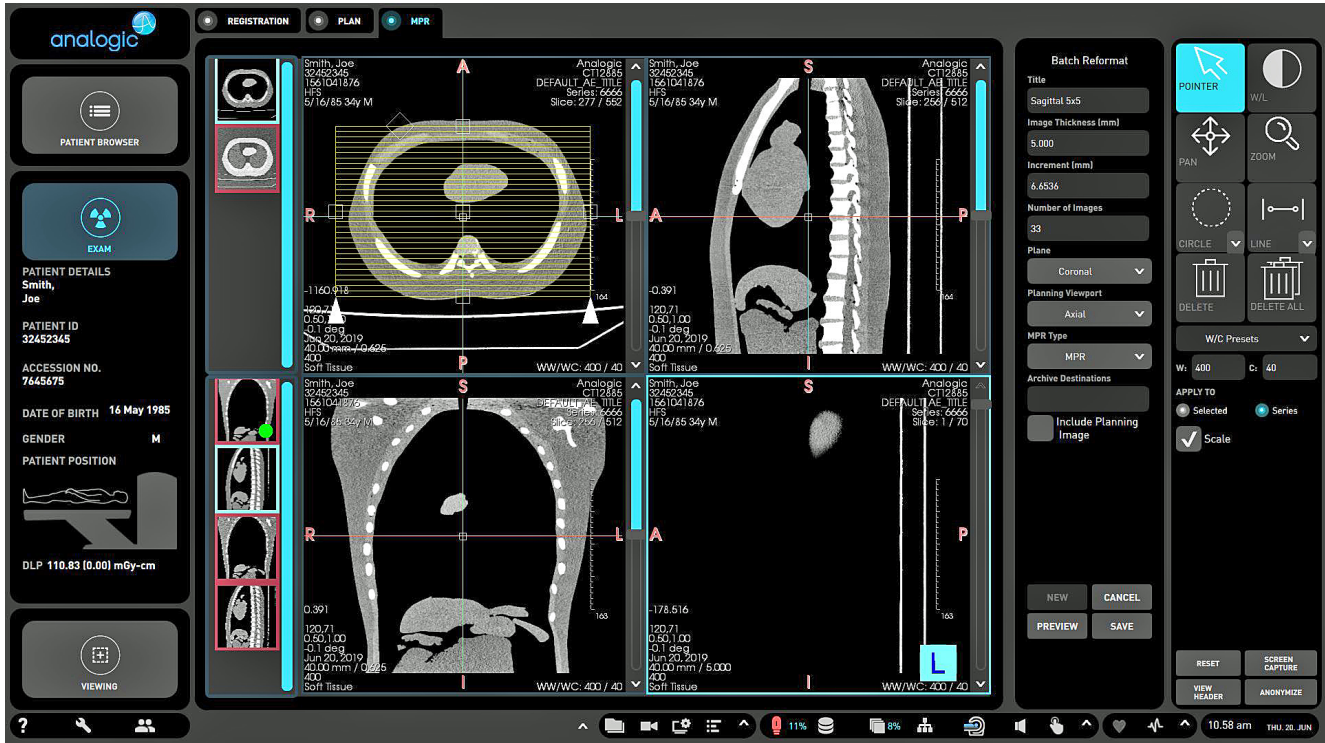

FIGURE 5.36 Image with Range Box
1. Select NEW. This puts a range box over the image (FIGURE 5.36).